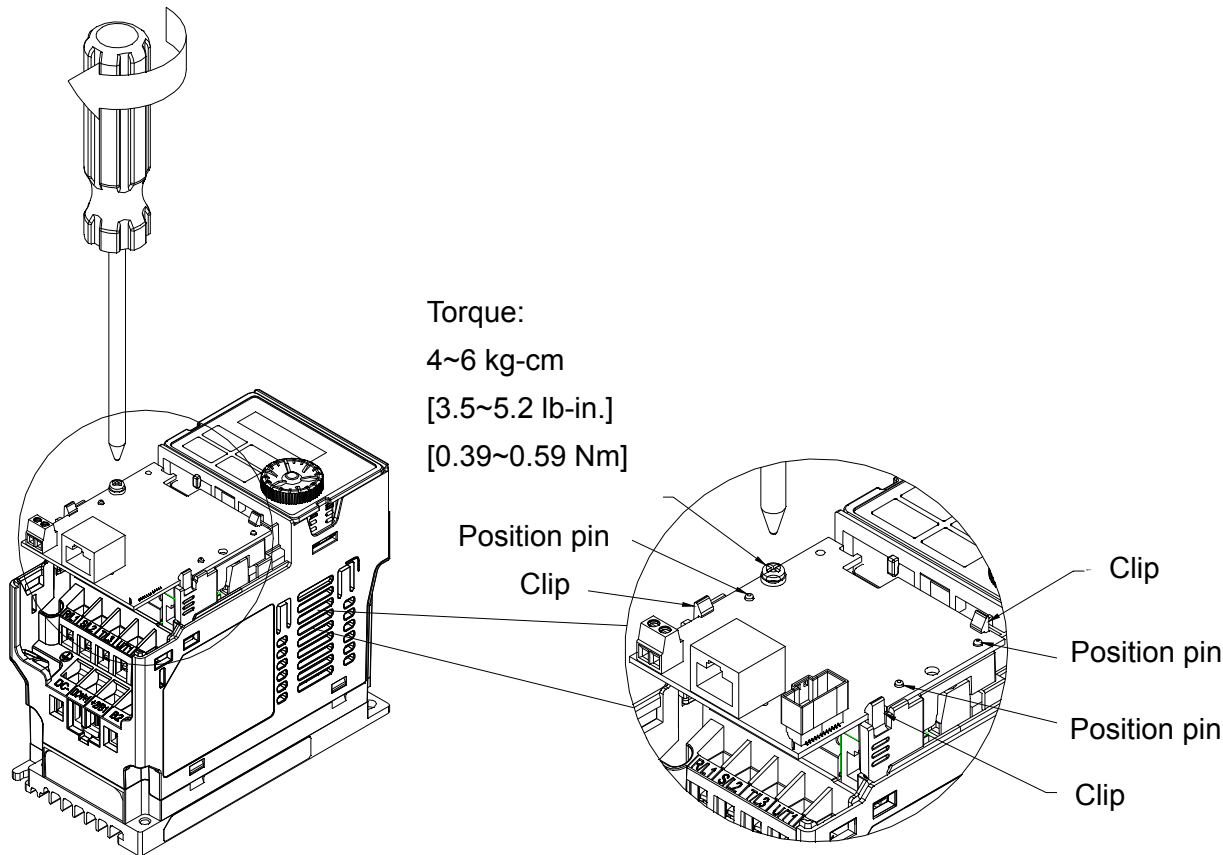

Fig. 8-3
- Wiring after the communication card fixed fitting is clipped with the holes (see  **NOTE**). Fasten the screw if the communication card maintains front mounting. Torque: 4~6 kg-cm / [3.5~5.2 lb-in.] / [0.39~0.59 Nm] , do not close the front cover at this time. (shown in Fig. 8-3) If close the front cover, please refer to the subsequent steps.